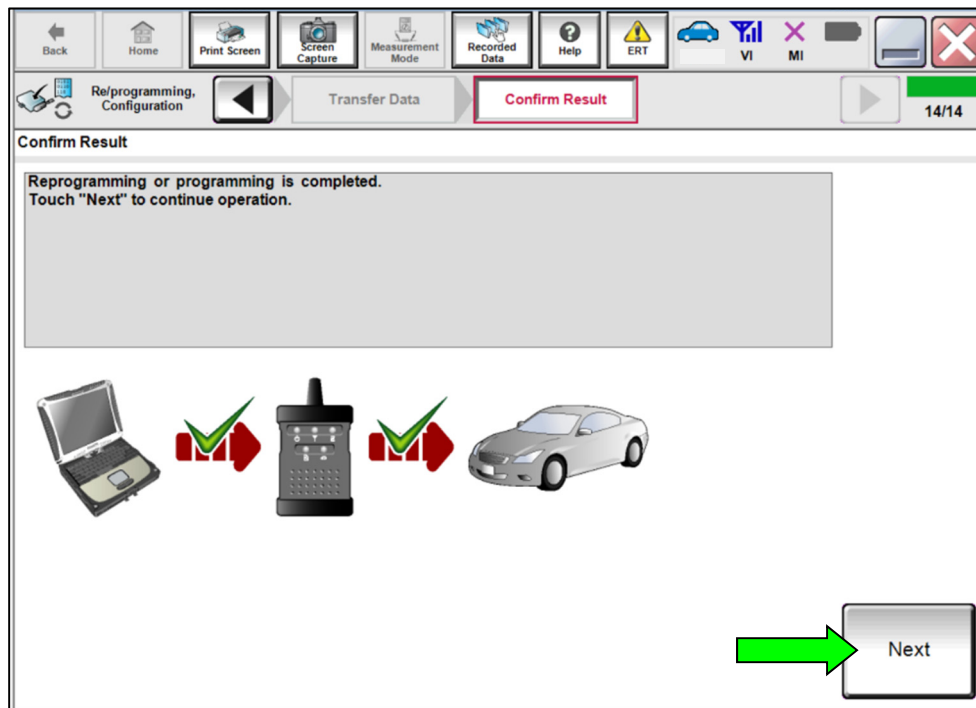

Figure 16
24. Once the screen in Figure 16 displays, the reprogramming is complete. Select **Next**.
- If the screen in Figure 16 does NOT display, indicating that reprogramming did not complete, refer to **HVAC Recovery** on page 15.